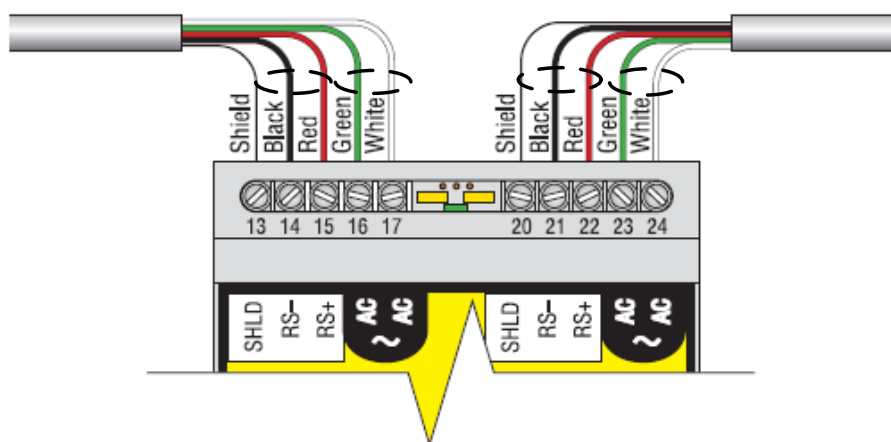

Fig.2
- Cables must be correctly terminated. The same colour combinations should be used throughout the installation to enable fast identification of correct cabling. It is strongly recommended the cables are terminated in the colour ways shown (Fig.2).